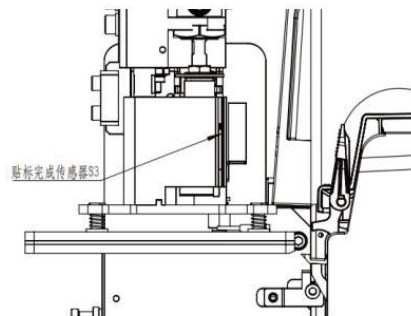

图2
- 9、(如图2位置)贴标时检查贴标完成传感器S3在触碰贴标物体时是否亮灯。贴标时下方无物体时贴标臂会下落到最大行程处停止，保持一小段时间(5s)会自动缩回，此时会提示贴标臂错误S3报警。
8. Ribbon installation path (see Figure 2).
9. When labeling, check whether the labeling-complete sensor S3 lights when it touches the object being labeled (position shown in Figure 2). If there is no object below, the labeling arm lowers to its full stroke and stops, holds briefly (5 s), then retracts automatically; the machine then reports labeling arm error S3.